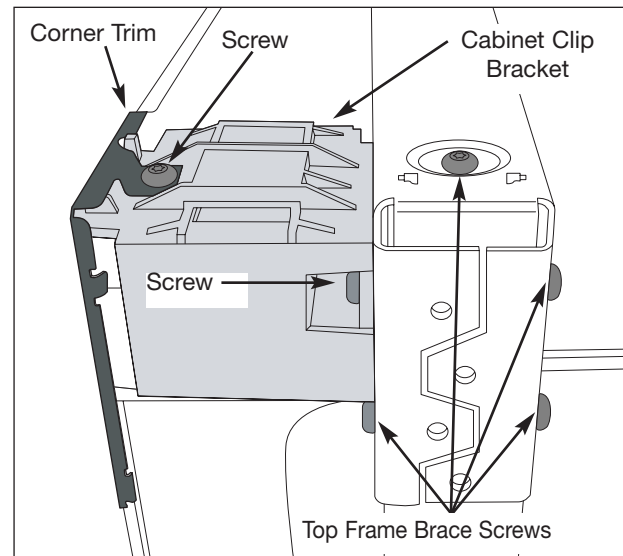

Figure 5-27. Corner Trim and Cabinet Clip Bracket Removal
The corner trim and cabinet clip bracket must be removed prior to removing the top frame brace and the leg and hinge assembly. (See Figure 5-27)
4. Using a #20 Torx bit, extract the four screws from each end of the top frame brace securing the top frame brace to the leg and hinge assembly. (See Figure 5-27)